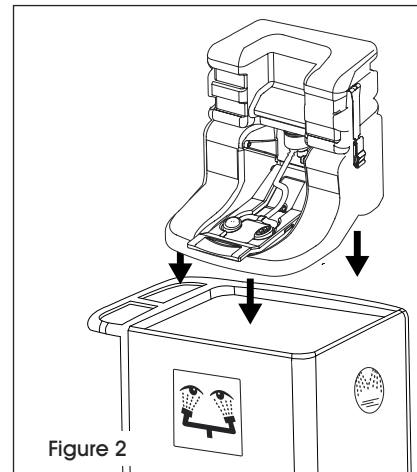

Figure 2
2. Lower the eyewash unit onto the cart tray. (See Figure 2)